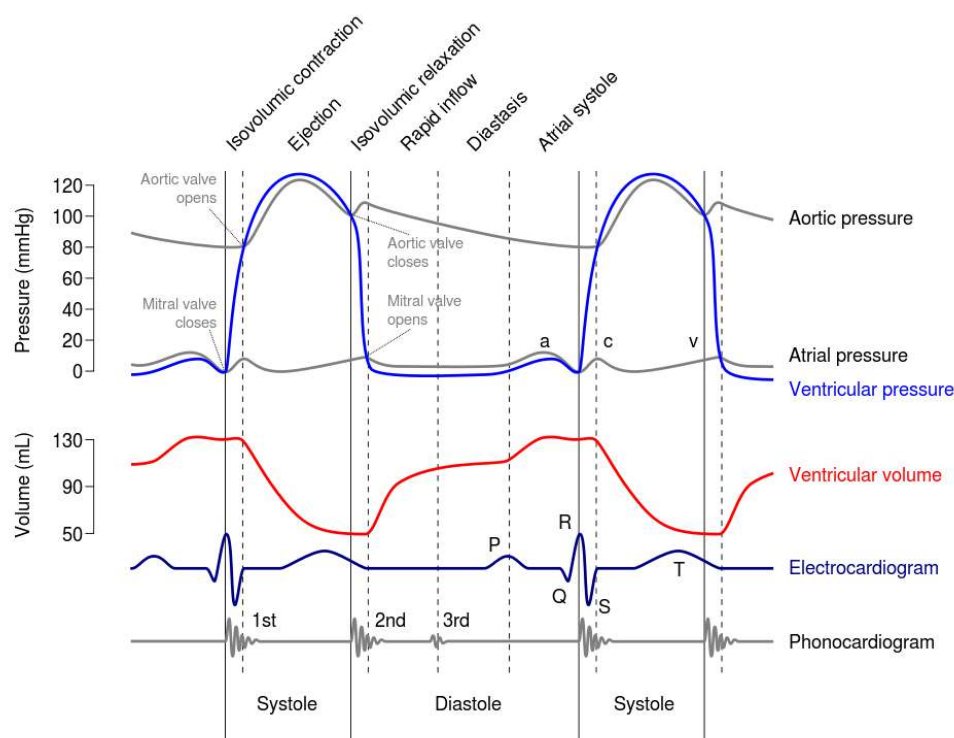

Figure 1. A Wiggers diagram, showing the cardiac cycle events (source: Wikimedia)
- Together with an ECG sensor and/or a Heart rate sensor different measurements of the heart can be compared to analyse the entire heart cycle and the blood flow (see figure 1),